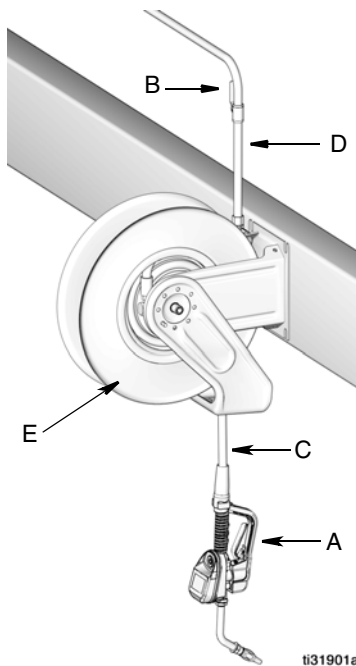

FIG. 6
The typical installation shown in FIG. 6 is only a guide. It is not a complete system design. Contact your Graco distributor for assistance in designing a system to suit your needs.
2. Close shut-off valve (B, FIG. 6, page 8).
1. Close the fluid shut-off valve (B, FIG. 6, page 8) at each dispense position.
4. Slowly open the shut-off valve (B) at the dispense position. Flush out a sufficient amount of oil to ensure that the entire system is clean; then close the valve.